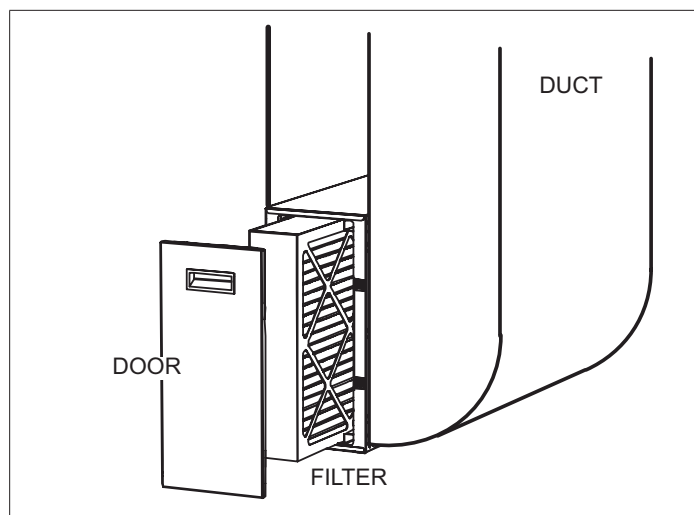

Figure 15. Insert Filter and Attach Door
8. Slide the filter into the rail and secure the cabinet door (see Figure 15).